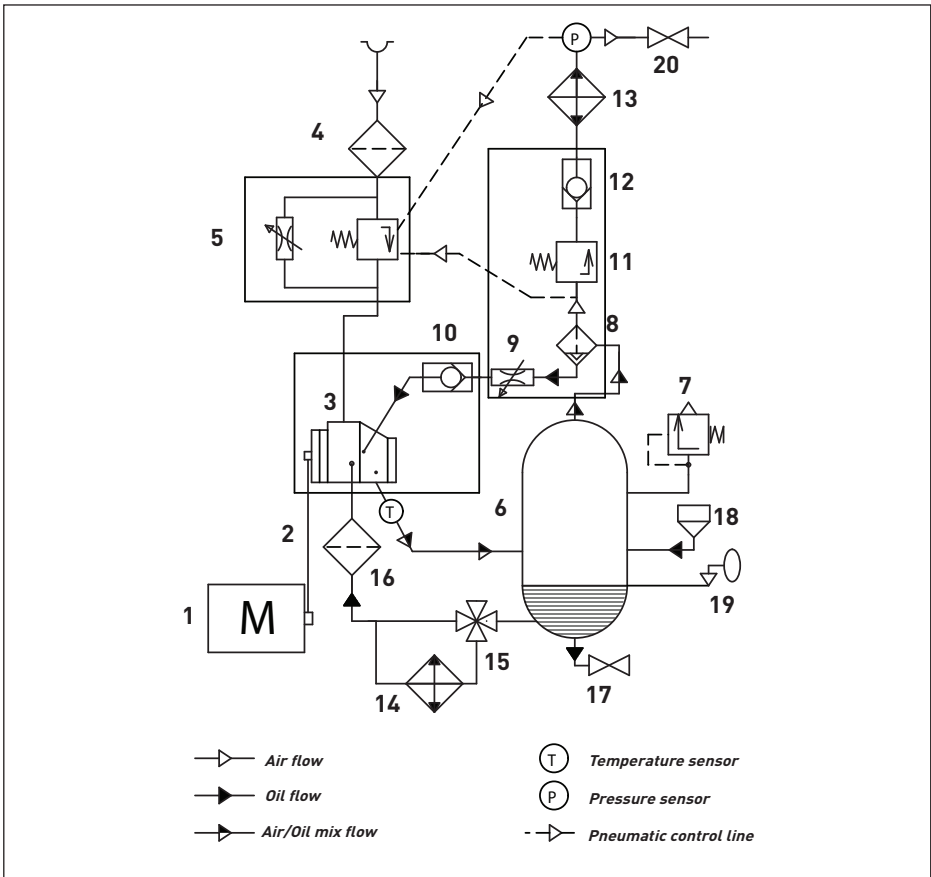

Fig. 2.3 Function diagram F30-F55
2.4 Functional description (see Fig. 2.3)